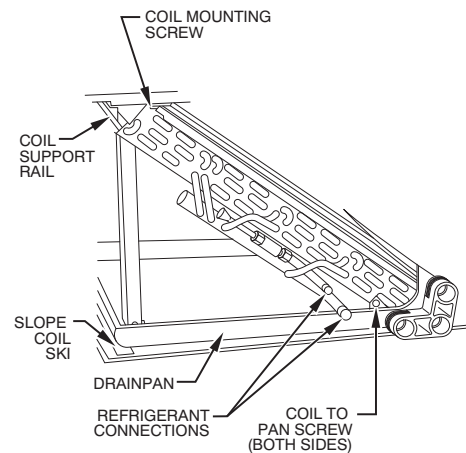

Fig. 23 - Slope Coil Component Location
8. Place assembly on a flat surface. Remove the two screws securing coil support columns to pan. (See Fig. 23.)
12. Remove coil top seal. (See Fig. 23.)